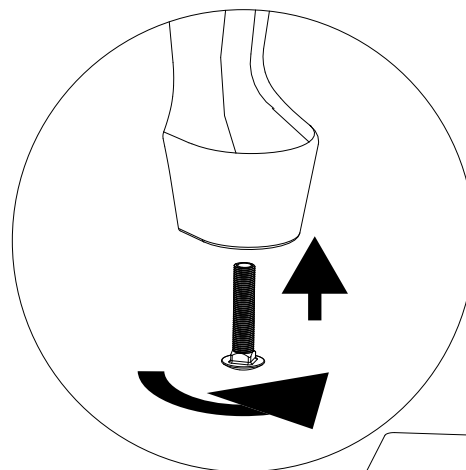

Figure 24.3
7. Use leveling bolts on legs to stabilize and level appliance (**Figure 24.3**).